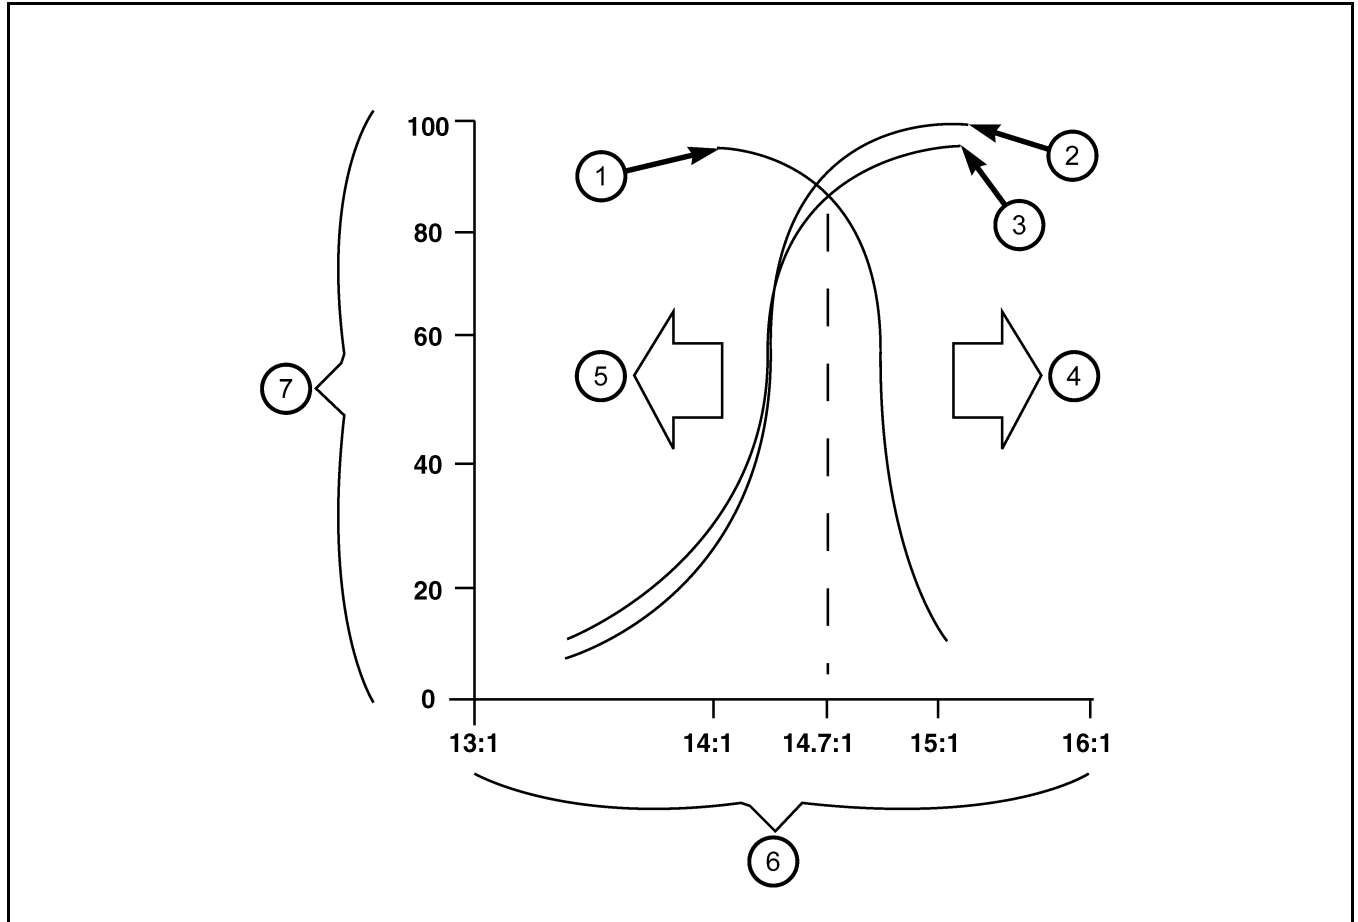

Figure 24 Conversion Efficiencies of a Three-Way Catalyst
The latest technology provides the use of a three-way catalytic converter on most automobiles. The three-way catalyst simultaneously converts three harmful exhaust emissions into harmless gases. Specifically, HC and CO emissions are converted into water (H₂O) and carbon dioxide (CO₂). Oxides of Nitrogen (NO_x) are converted into elemental Nitrogen (N) and oxygen. The three-way catalyst is most efficient in converting HC, CO and NO_x at the stoichiometric air fuel ratio of 14.7:1. If the mixture becomes leaner than 14.7:1 (extra oxygen) the ability to convert NO_x drops. As the mixture becomes richer than 14.7:1 (less oxygen) the ability to convert HC and CO drops. BUT...a catalytic converter does require the byproducts of running slightly rich and slightly lean to effectively reduce emissions. It is for this reason that the oxygen sensor indicates an AVERAGE of 14.7:1, constantly switching back and forth across the threshold (fig 24). The PCM needs to make "Cat Food." For a catalyst to oxidize hydrocarbons and carbon monoxide, it needs to receive a source of oxygen. This is accomplished every time the O₂ switches lean. Conversely, the catalyst also requires carbon monoxide to reduce the oxides of nitrogen. This is provided during the rich swing of the O₂.